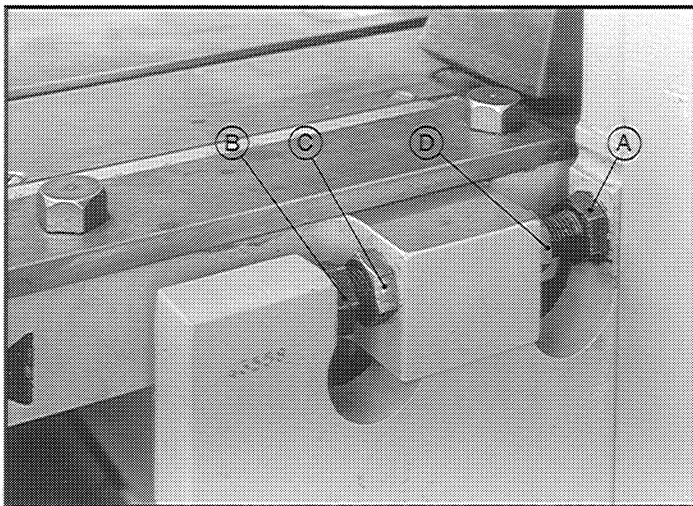

FIGURE 9-10 - Table adjusting screws (135 Series)
135 Series (Refer to Figure 9-10)
11. The table must be moved to set the final clearance. Use the procedure in Step 1 to move the ram down until the knives are crossed just before the left end of the knives. Move the table at the left end with the inner and outer adjusting screws until the knife clearance indicated in Figure 9-9 is obtained. Tighten the jam nuts "C" and/or "D" on the left side. Refer to Figure 9-10 or 9-11.
13. Use the footswitch to inch the ram down until the knives just cross at the right end. Turn the OPERATOR CONTROLS selector to the "OFF" position. Move the table at right end with the inner and outer adjusting screws until the knife clearance indicated in Figure 9-9 is obtained. Both adjusting screws must be tight when the correct clearance is obtained. Tighten the jam nuts "C" and/or "D" on the right side. Refer to Figure 9-10 or 9-11.